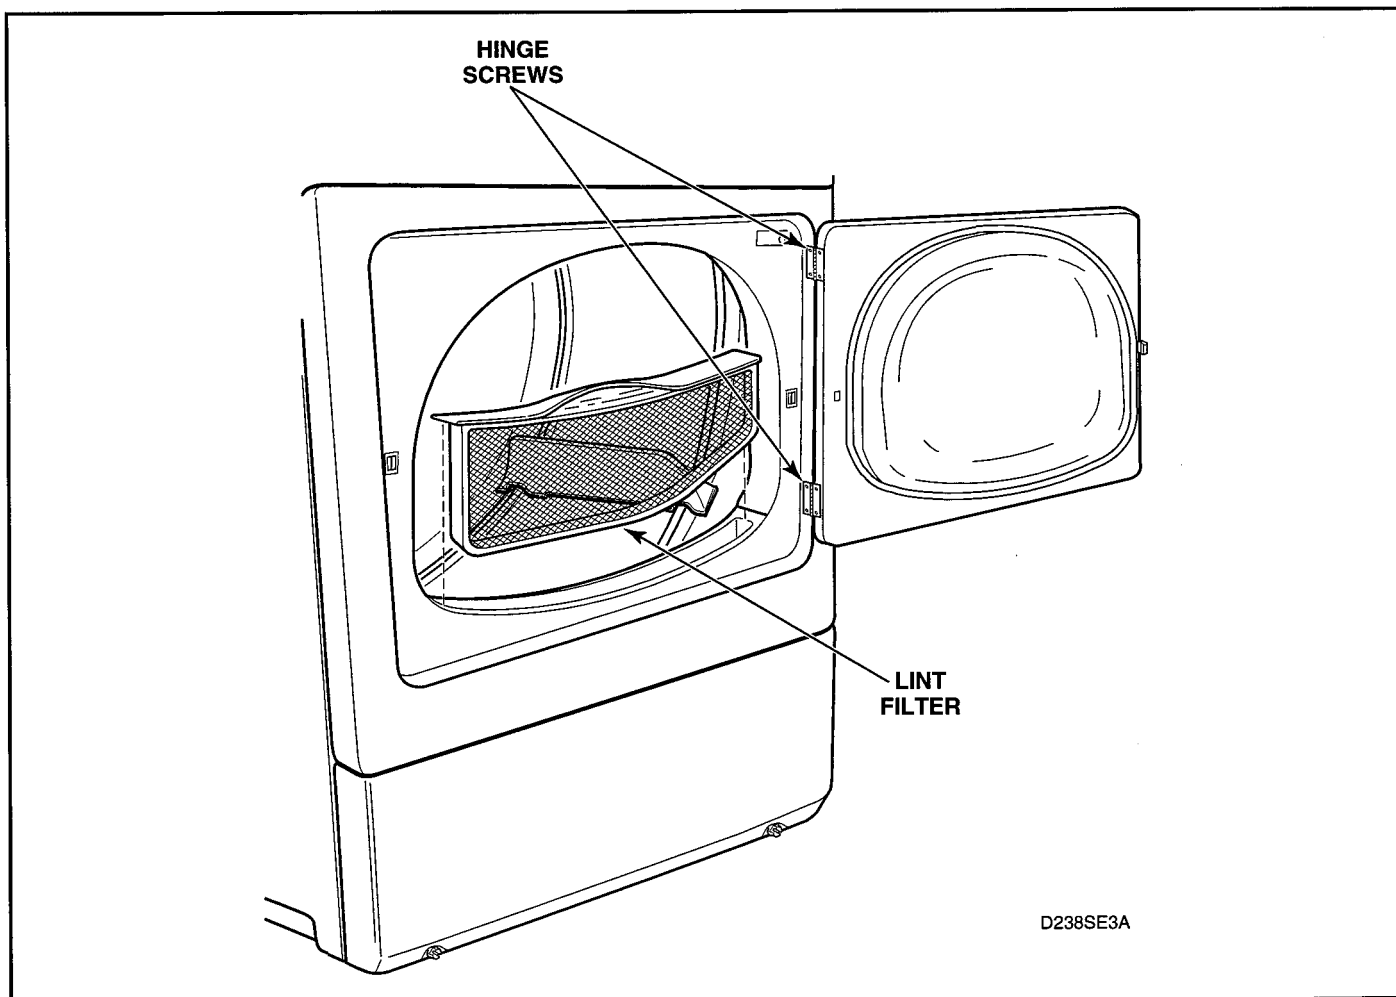

Figure 5-4
11. LINT FILTER (Figure 5-4)
- a. Remove four screws holding door assembly to hinges. See figure 5-4.
- b. Remove screws holding loading door to hinges. See figure 5-4.